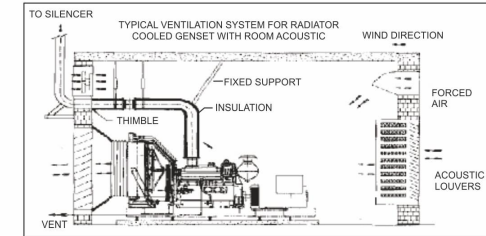

Figure 4.4
- Additional ventilation arrangement may be required for radiator cooled engines installed in acoustic rooms/enclosures. Typical arrangements are shown in figure 4-4.